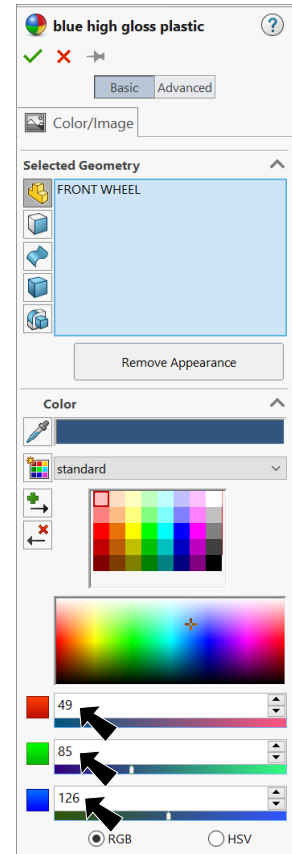

Fig. 18
Step 3. In the Appearances Property Manager under **Color**, Fig. 18